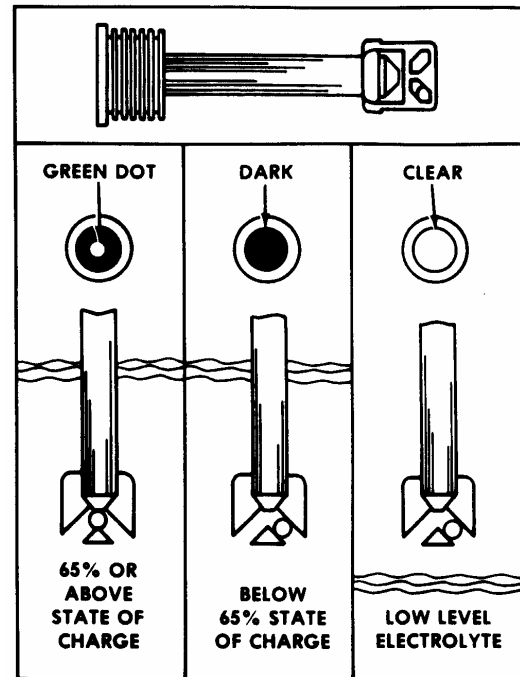

FIGURE 13: TEST INDICATOR
The test indicator in the battery cover is to be used with accepted diagnostic procedures only. It must not be used to determine if the battery is good or bad, charged or discharged. The test indicator is a built-in hydrometer in one cell that provides visual information for battery testing (Figure 13).
1. Connect a voltmeter, ammeter, and a variable load resistance as illustrated in Figure 13.